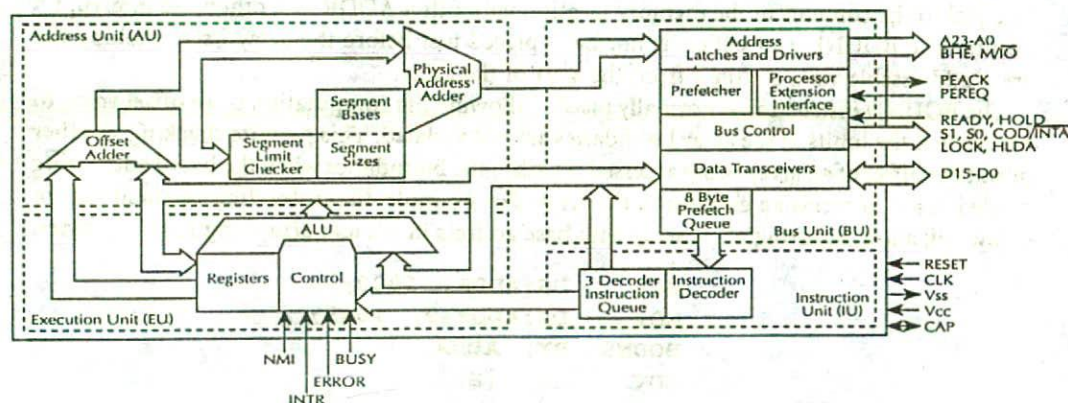

FIGURE 4.2 80286 internal block diagram.
The 80286's performance is up to six times faster than the standard 5-MHz 8086. The 80286 is housed in a 68-pin leadless flat package. Figure 4.2 shows a functional diagram of the 80286. It contains four separate processing units. These are the Bus Unit (BU), the Instruction Unit (IU), the Address Unit (AU), and the Execution Unit (EU). The BU provides all memory and I/O read and write operations. The BU also performs data transfer between the 80286 and